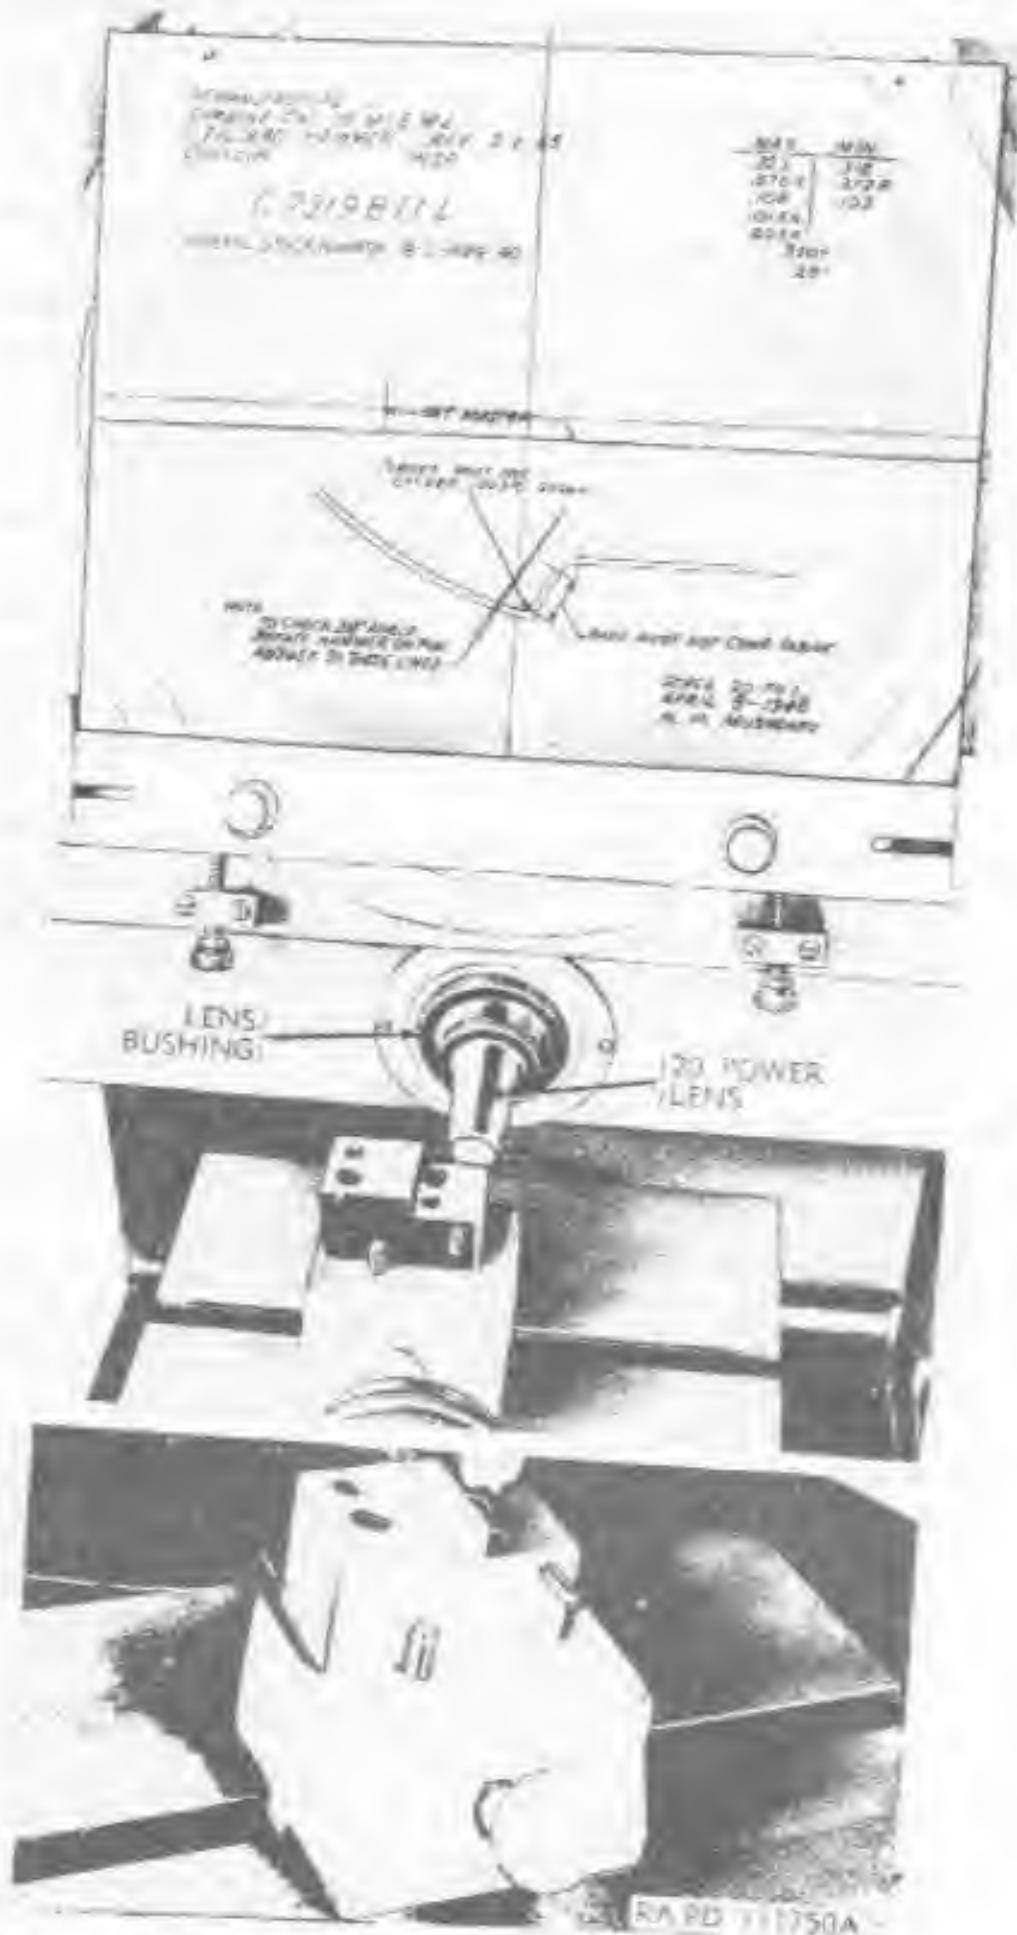

Figure 128. Screen and fixture art-up for hammer inspection.
- (1) Place hammer contour screen 18-S-1499-40 (fig. 12) in the proper position on the chart holder (fig. 128). The chart holder clamping screws may have to be slightly loosened in order to do this.
- (2) If not already in place, insert the lens bushing into the lens bracket.
- (3) Insert the 20-power (6-mm) projection lens, specified in the lower right corner of the chart as the scale, into the lens bushing (fig. 128).
- (4) Locate the mirror assembly with respect to the 20-power stop pin.
- (5) Place the hammer staging fixture 7319811 (fig. 11) on the table with its tongue engaged in the groove of the table (fig. 128).